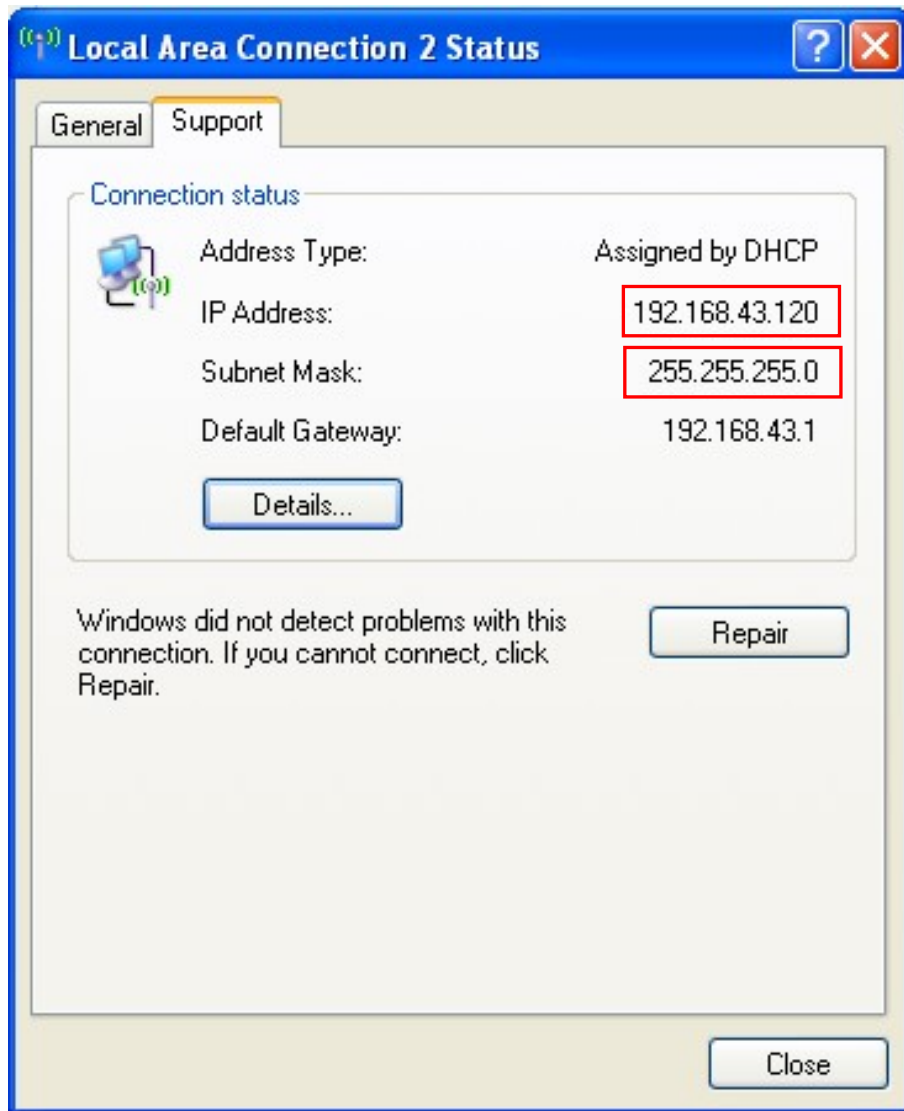

Figure 11
- (2) Figure 11 displays the IP address information of the current wireless networks. Please find out the corresponding wireless network segment according to this IP address and set the printer IP with different IP address in the same segment.
In Figure 11, the IP Address is 192.168.43.120 and the segment is 192.168.43. Please do not fill in this IP Address in the item of “Printer IP” directly.
Subnet Mask Set the subnet mask of the printer Wi-Fi interface. It is suggested that the subnet mask should be the same with the wireless networks. (Check the subnet mask in figure 11)
Fill in the corresponding segment according to the wireless network IP address you find out in figure 11.